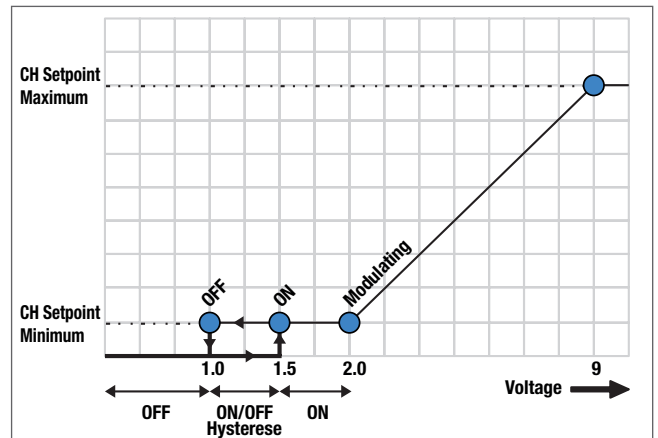

Fig. 47 10VDC Control mode
- The boiler CH setpoint can be controlled by an analog input signal provided by a remote means such as a Building Management System or a system controller. The analog input 0-10 VDC, is used to adjust the boiler setpoint between the CH_Setpoint_Min and the CH_Setpoint_Max settings (Fig. 47). To enable this operation mode, the parameter CH mode must be set to 4 (see **SSB Control System Manual** for accessing the parameter list).